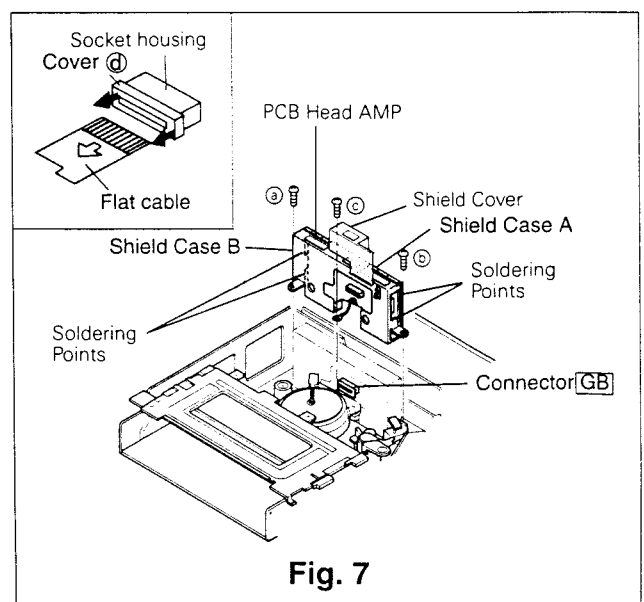

Fig. 7
- C. Disconnect the flat cable by gently pulling cover ① of the connector[GB], as shown in Fig. 7.
- D. Remove three screws(①~③).